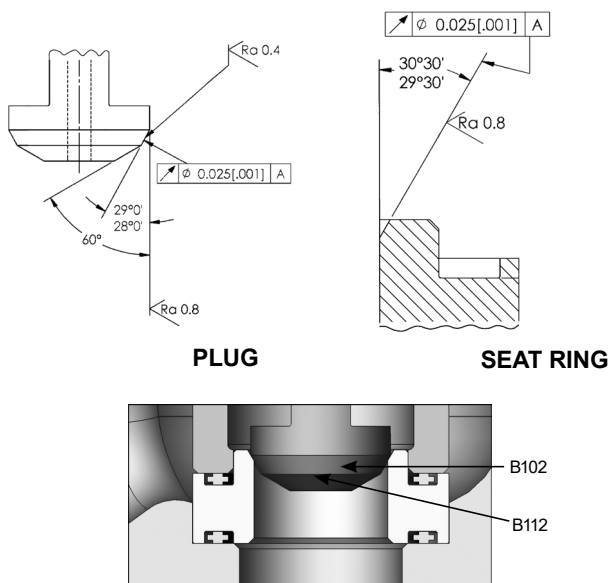

Figure 16: Plug and Seat Ring Seating Surfaces
Seating surfaces may need to be lapped in order to restore the necessary surface integrity to meet valve leakage requirements. A maximum of .015" (0.4mm) metal removal from both the plug and seat surfaces is allowable for any valve size. Make sure the seating angles on the reworked parts are within the specified tolerances as shown in the Figure 16 below. Parts requiring more metal removal to restore shall be discarded and replaced.
10. After lapping, disassemble the parts to clean them and then reassemble, making sure the seating angles are within tolerance. See Figure 16.